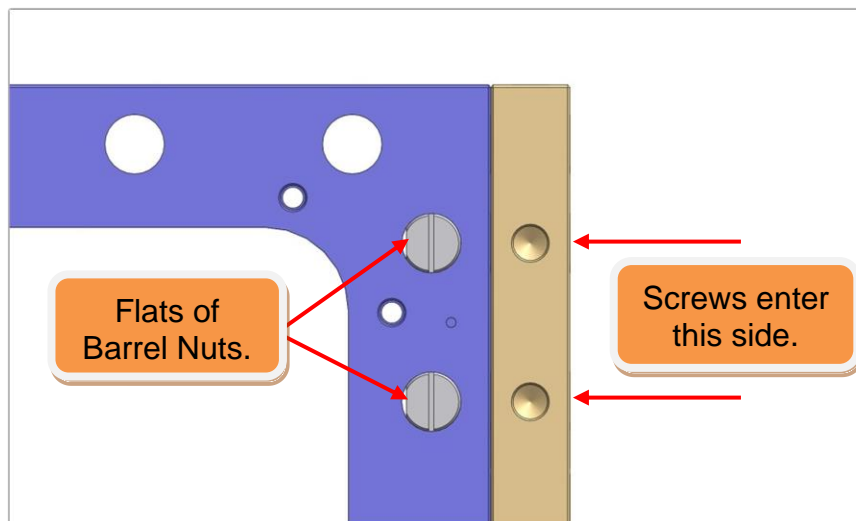

Figure 3.20. Preferred orientation of Barrel Nuts. Flat side should always face away from the screw, to minimize stress concentrations.
- Place (14) **Type 01 Barrel Nuts** (D071250-01) into holes along the sides of the **Mid-Tangential Rib** (D071071). Flat side of each Nut should face away from its screw, as shown in Figure 3.20. Thread in mating screws. Snug, but don't torque, yet.